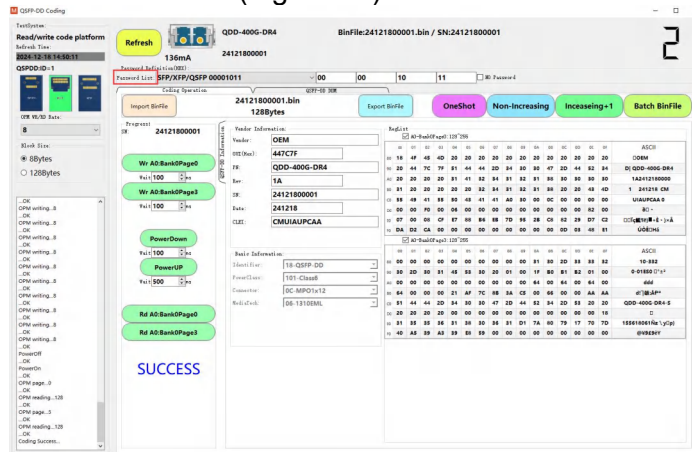

Figure 74
1. Click to open the “Password List” (Figure 74)